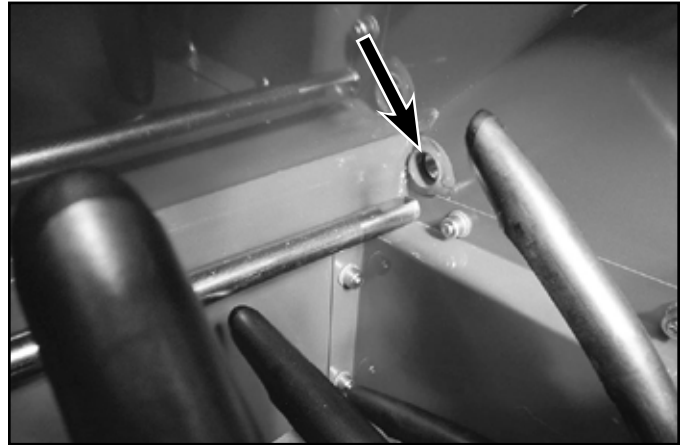

Fig. 079 RH side hole_a
10. Guide the shaft through the pivot shaft hole on the right hand side (Fig. 079).